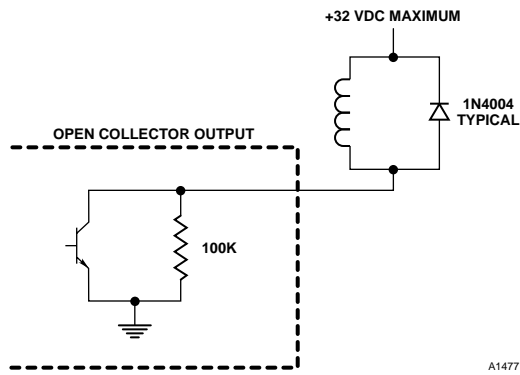

Figure 14—Open Collector Output with Inductive Load and Transient Suppression Device
Connections to open collector transistor outputs are made at terminals 10, 12, 14, and 16. Terminals 9, 11, 13, and 15 are not used. See Figure 14 for an example of a typical connection to an open collector transistor output.
*External equipment that can generate transients when switching (such as relays) **must have a transient suppression device (diode) properly connected across the coil at the time of installation. This will safeguard the output transistors of the controller against possible damage. Figure 14 illustrates an inductive load with a diode used for transient suppression.***